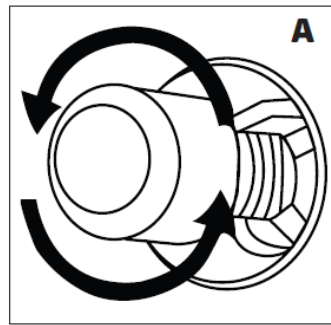
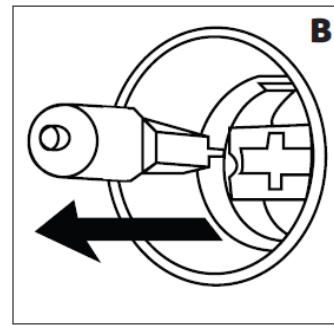

Figure 30
Figure 31
3. Then remove the oven lamp by turning it (See figure 30) if it is type **A**, or by pulling it (See figure 31) if it is type **B**.